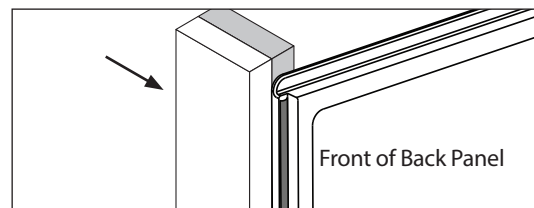

FIGURE 4. All panels must fully contact required studs.
- a. All panels must fully contact required studs as shown on page 1. (Fig. 4)